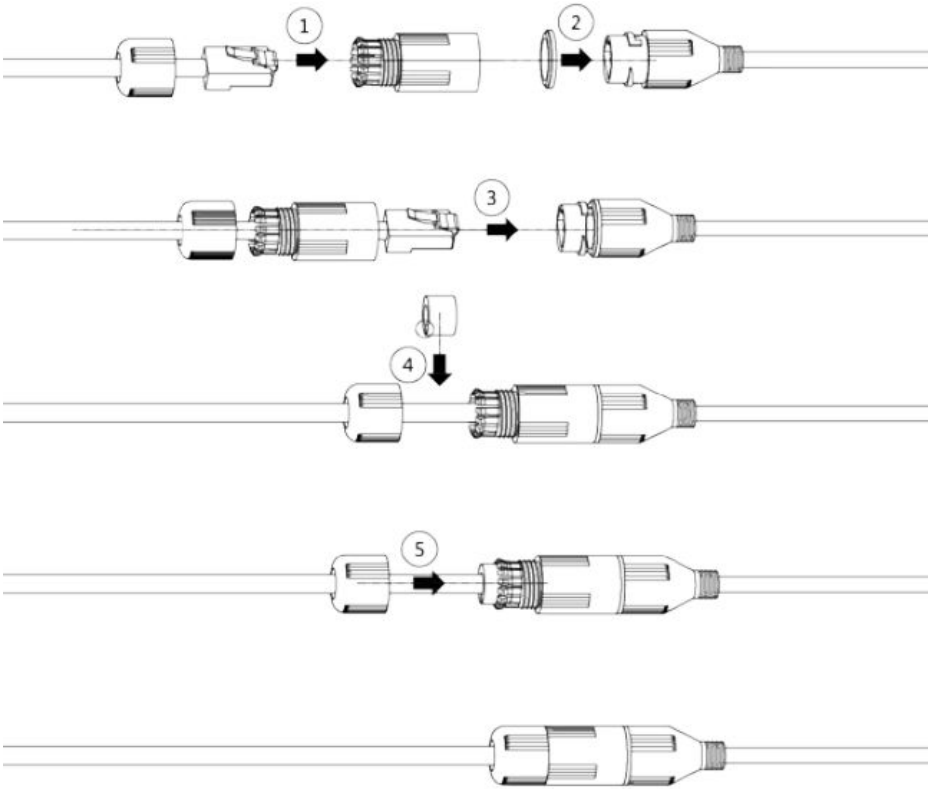

Figure 2-5
**Waterproof connector installation for network port (if applicable):** See figure 2-5.